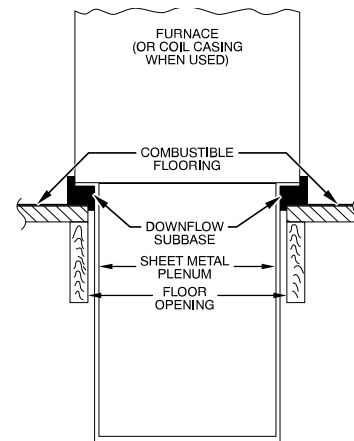
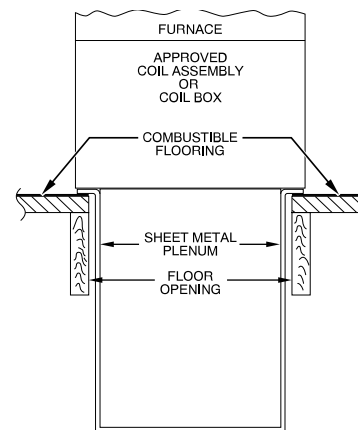

Fig. 12 – Furnace, Plenum, and Subbase Installed on a Combustible Floor
Fig. 13 – Furnace, Plenum, and Coil Assembly or Coil Box Installed on a Combustible Floor
4. If downflow subbase is used, install as shown in Fig. 12. If manufacturer’s cased evaporator coil or coil casing is used, install as shown in Fig. 13.